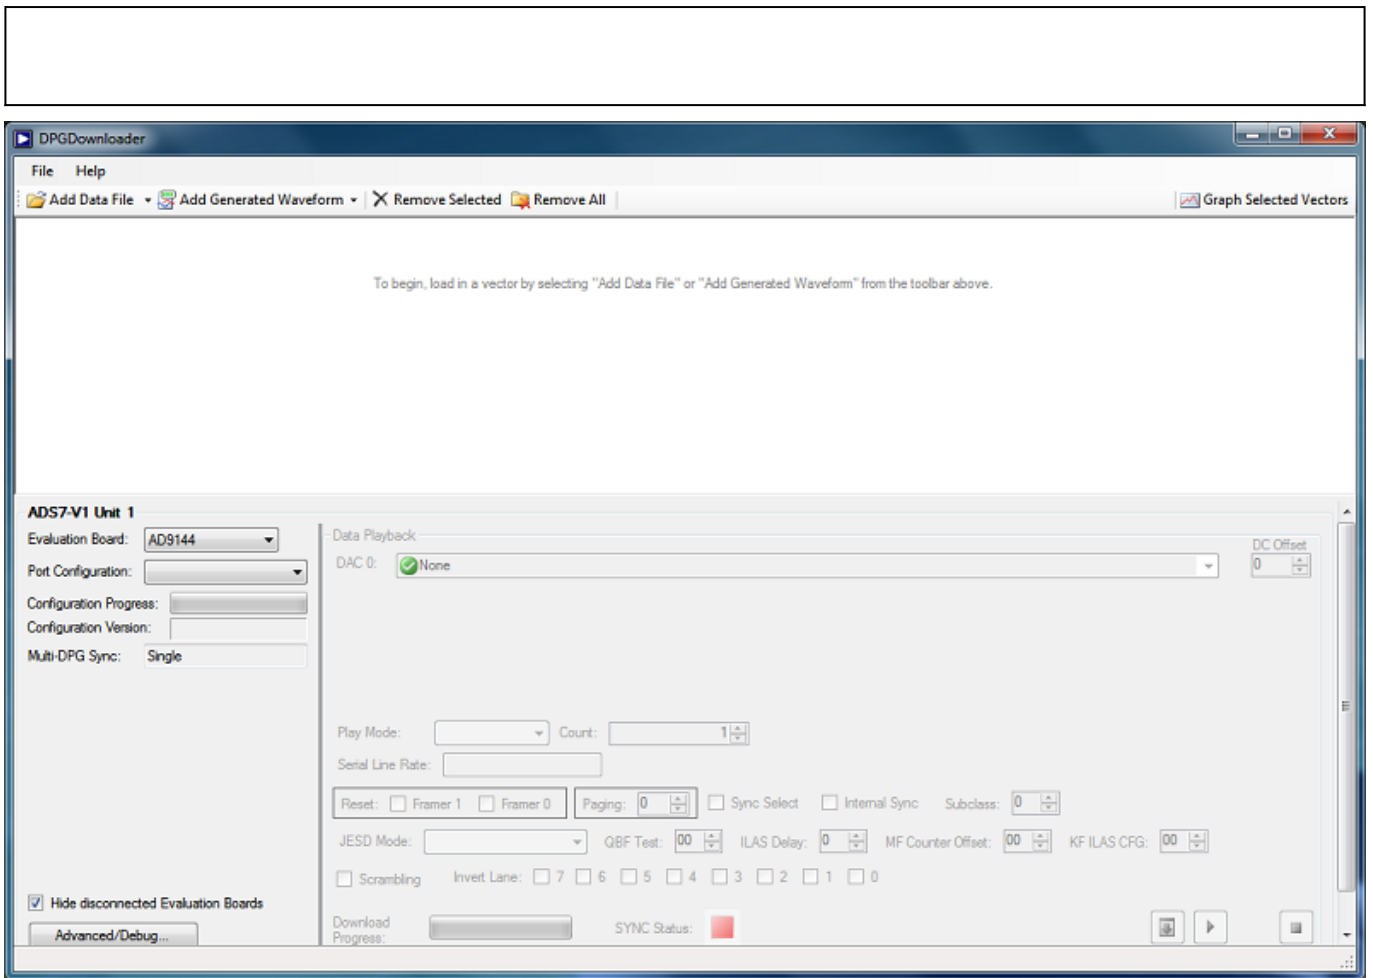

Figure 3. Initial DPG Downloader Panel
1. Run DPG Downloader. It will say AD9144 as shown in Figure 3